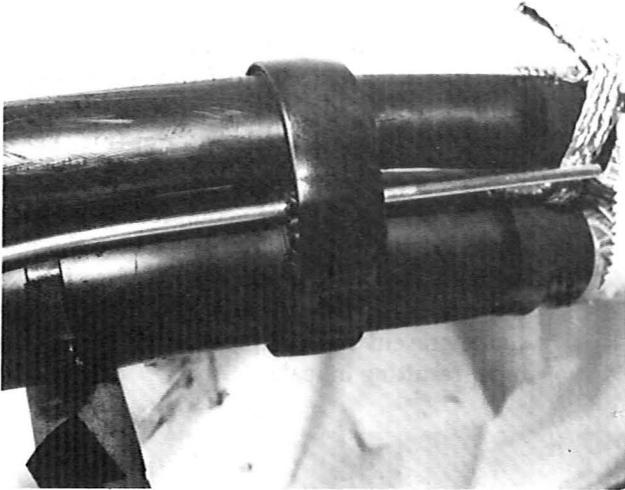

Fig. 4
4. Fill in the spaces between the cables with rolls of B sealing tape. Then use rolls of B sealing tape to form an approximately round collar. (See Fig. 4.)